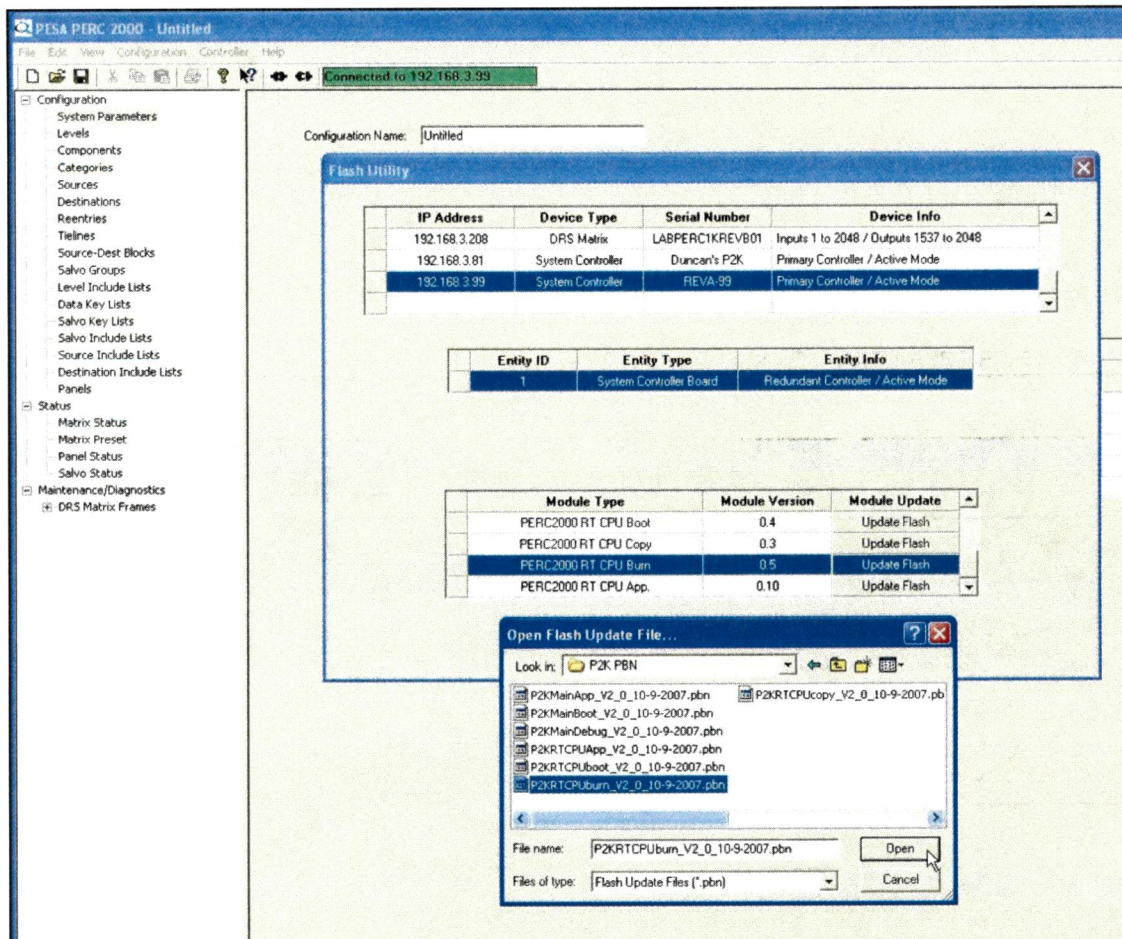

Figure 17. Open Flash Update File Browse Box
6. The Open Flash Update File window is displayed, Figure 17. Browse to the folder named P2K PBN that you created in Paragraph 4. Locate and click on the file named **P2KRTCPUburn_V2_0_10-9-2007.pbn**. The file will appear in the File Name box. Click the **Open** button on the window.